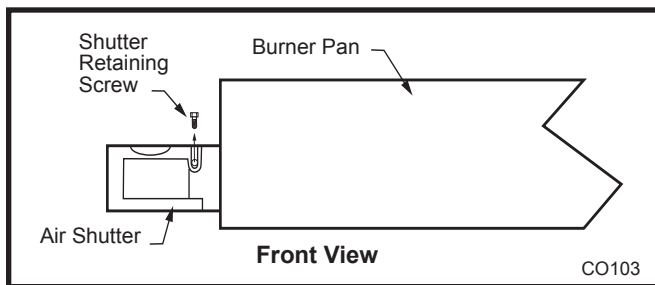

Fig. 86 Remove air shutter from burner pan.
4. Remove both air shutters from burner pan by removing air shutter retaining screw then air shutter. (Fig. 86)